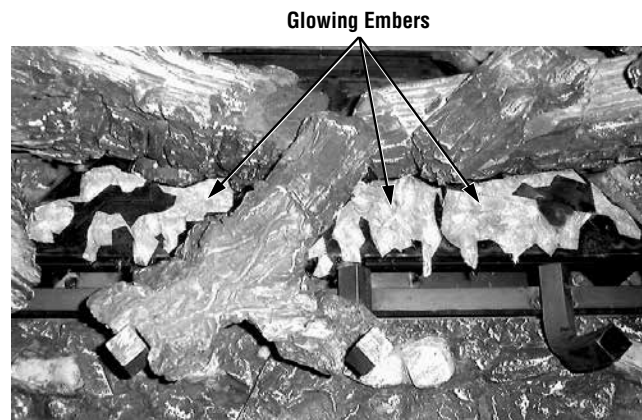
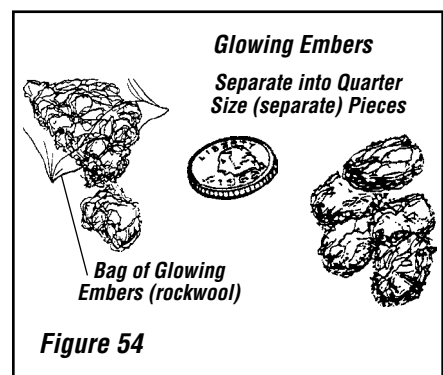

Figure 55
Figure 54
Step 3. Separate the Glowing Ember (rockwool) into pieces about the size of a quarter (**Figure 54**). Keep the pieces fluffed up, not matted. Distribute these pieces over the front surface of the burner, as shown in **Figure 55**. Do not use more than is necessary. When properly positioned, the Glowing Embers will cover approximately 65% of the front burner and with no appreciable gaps or openings. Ensure that the main burner ports remain uncovered by the ember material.